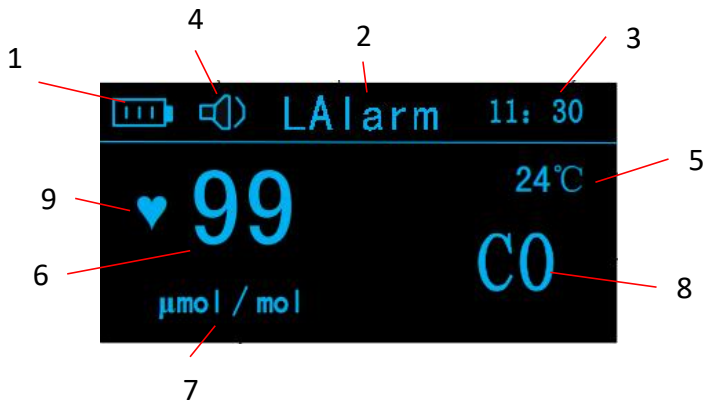

fig 2
2.2. Working status show: It display detector's working status. When it is normal, the system displays the picture as shown in fig 3. When it is alarmed, the display shows as picture in fig 2 :